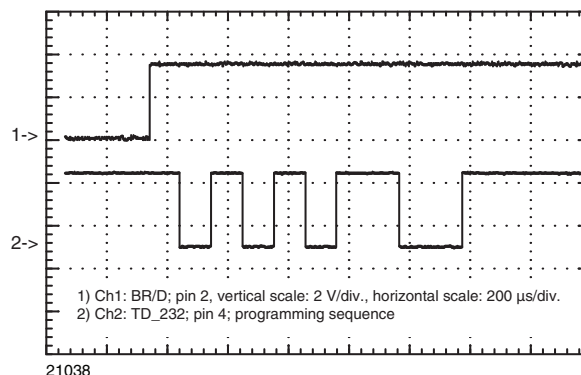

Fig. 5 -
The diagram in figure 5 shows the programming byte “0-1010-1100” in the order
**STA, B0, B1, B2, B3, S0, S1, S2, X. This order is from right to left in table 1. B0 is sent first as LSB (see figure 5).**
In the oscilloscope that will be shown in the reserved order with LSB first, see figure 5.
In figure 5 the programming sequence is shown for a bit rate of 12.8 kbit/s.
Programming sequence for setting the endec to a bit rate of 12.8 kbit/s as in figure 5 but with a 3/16 bit pulse duration (S0 = "0").